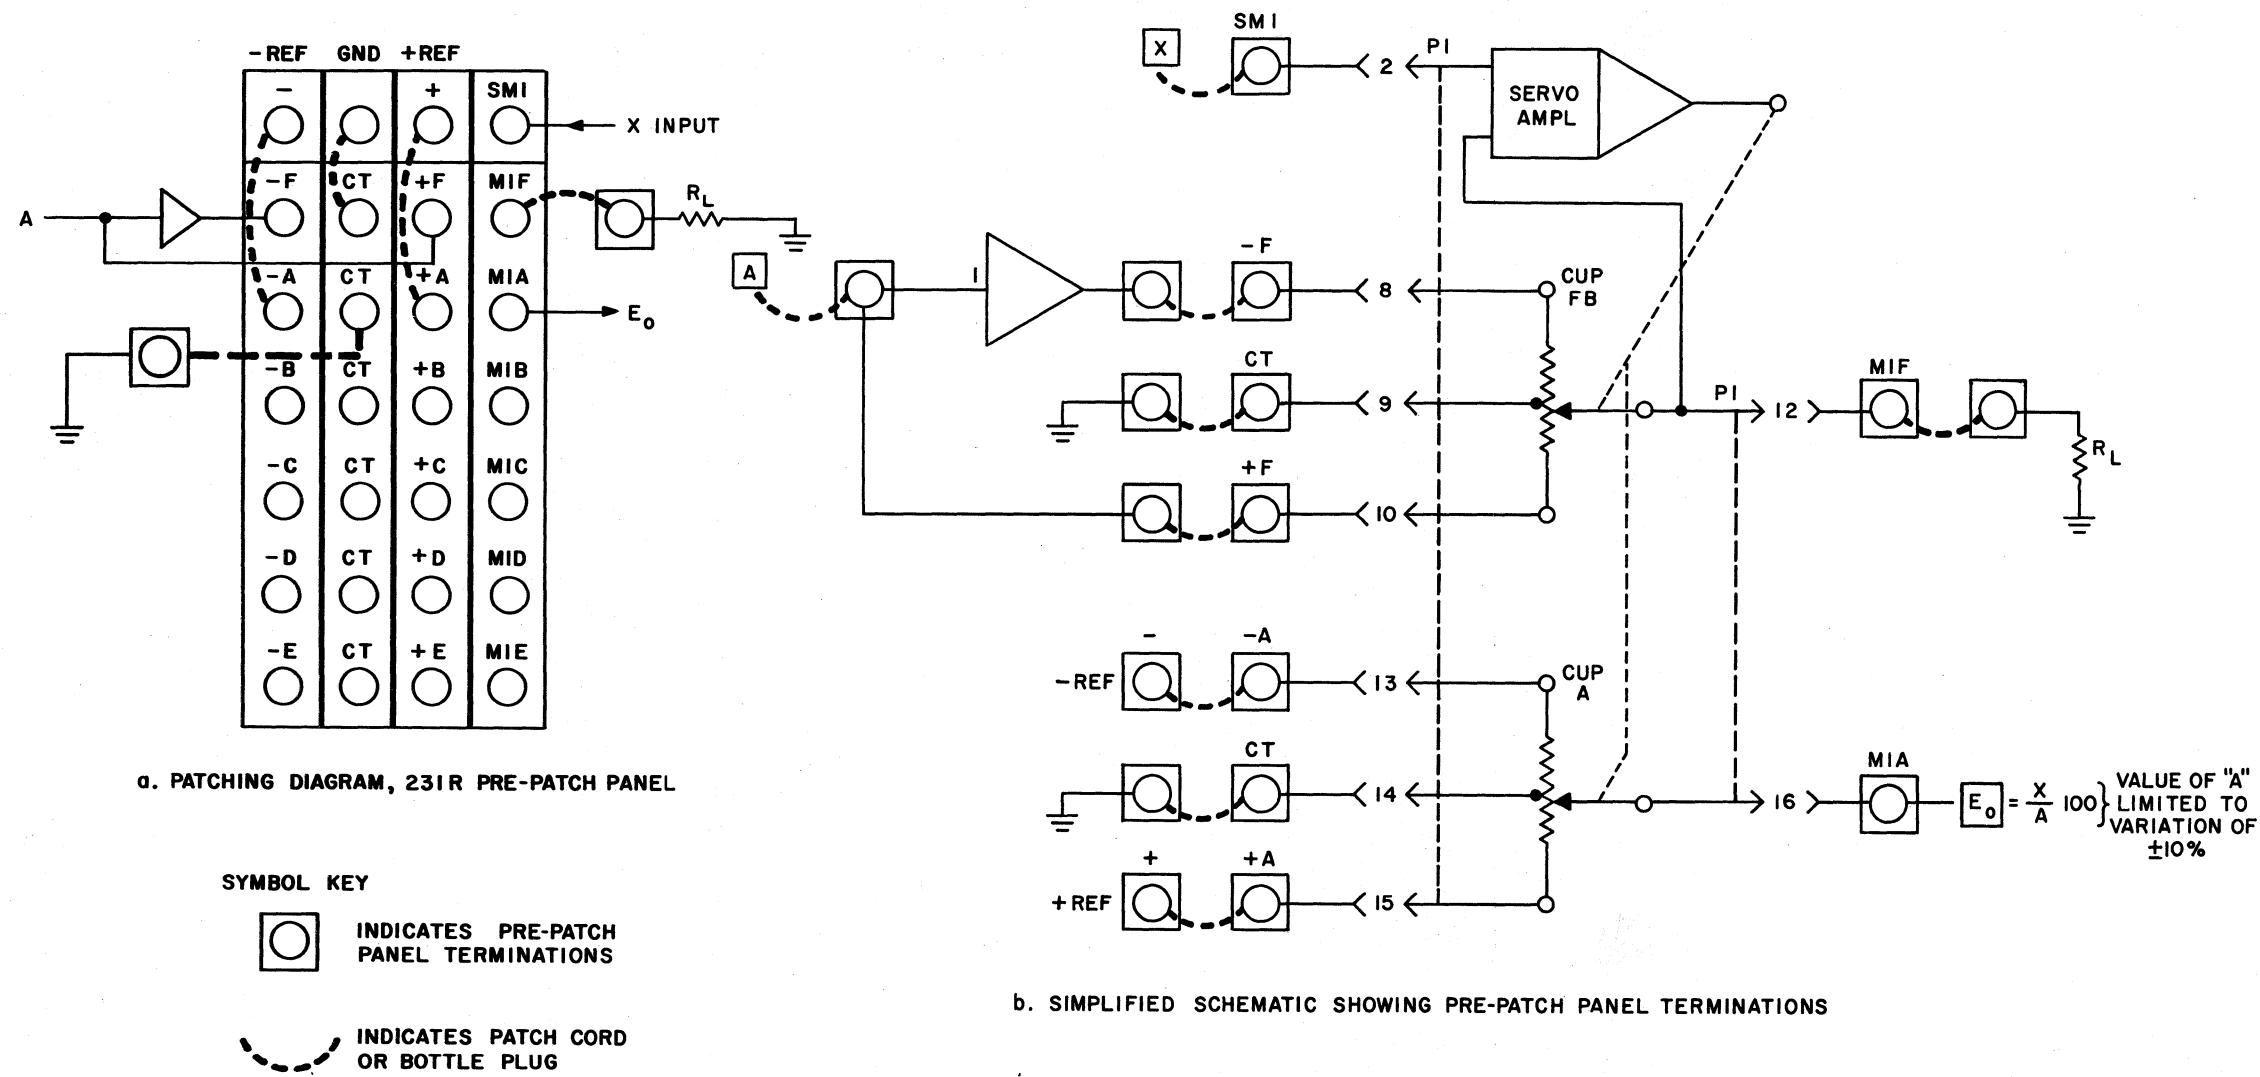

Figure 6.
(2) *Method 2.* Another method of dividing is shown in Figure 6. This method is recommended only when variations in the value of A can be closely limited ( $\pm 10\%$ ). Since A is a part of the servo loop, operational stability will not be maintained for any wide variations in loop gain.